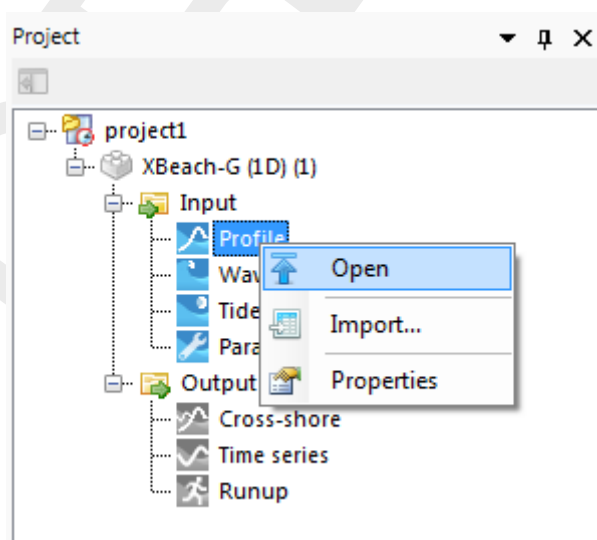

Figure 1.5: Project treeview context menu after right clicking an item in the Input folder of an XBeach-G model
- ◇ Right-click the Input item in the *Project* toolwindow and select *Open* (Figure 1.5)